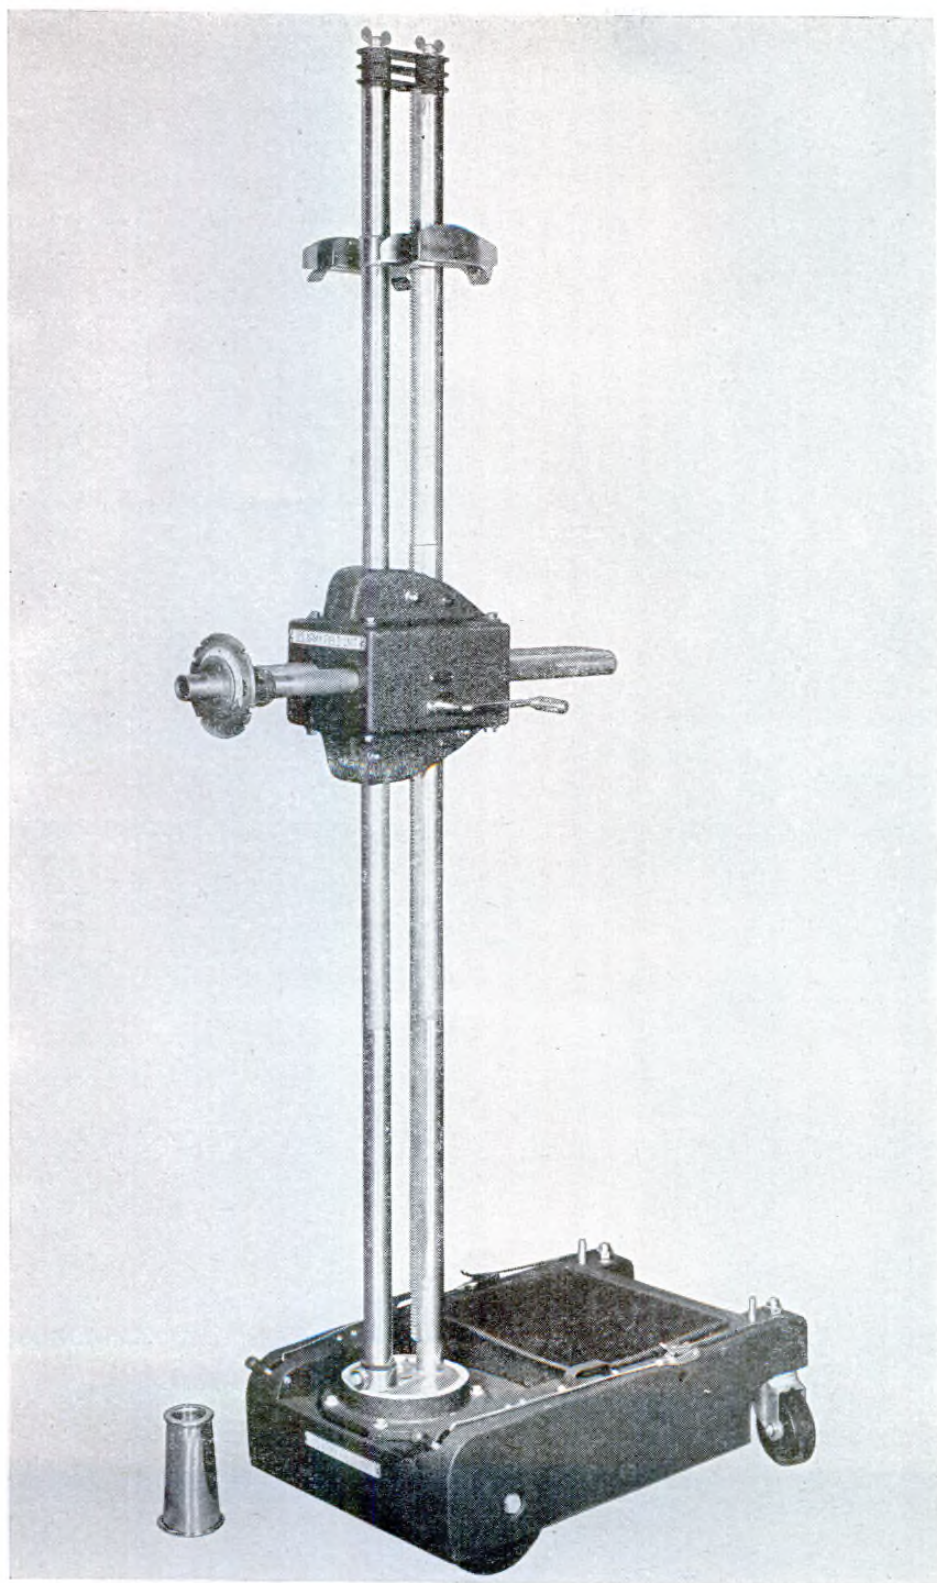

Figure 32. Chassis, mast and cross-arm carriage, part of Chest MD X-1, old type, item No. 9609005.
(4) Unfold the draw bolts and insert them into the top of the mast. Turn the wing screws so that the threaded ends of the draw bolts will engage. Tighten the draw bolts to make the entire mast assembly rigid.
(5) Insert the high-tension transformer into the well of the carriage. The lock side of the transformer must be facing the mast.
(6) Release and fold back the cover of the transformer chest.
(7) Insert the hand crank into the socket provided on the cross-arm carriage.
(8) Raise the carriage up two-thirds of its travel.
(9) Remove the two cable supports from the chest and place them in position on the slide provided on the top section of the mast. The slide should be approximately at eye level when attaching the supports. (See fig. 32.)